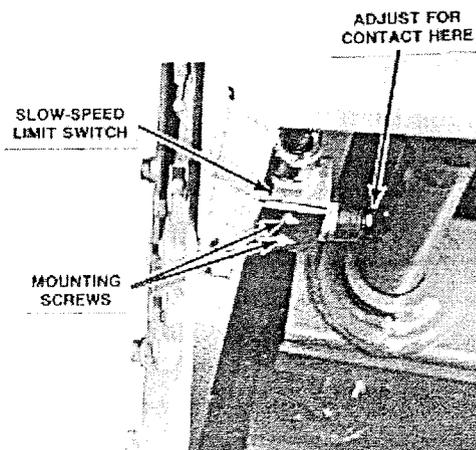

FIG. 1-11 Slow Speed Limit Switch
- a. Raise platform approximately four (4) feet. (Switch is located at right-rear underside of platform.)
- b. Adjust switch in or out to activate circuit at this height (Figure 1-11). Slow-speed valve will then be energized when platform reaches this height, allowing machine to travel in slow speed only.